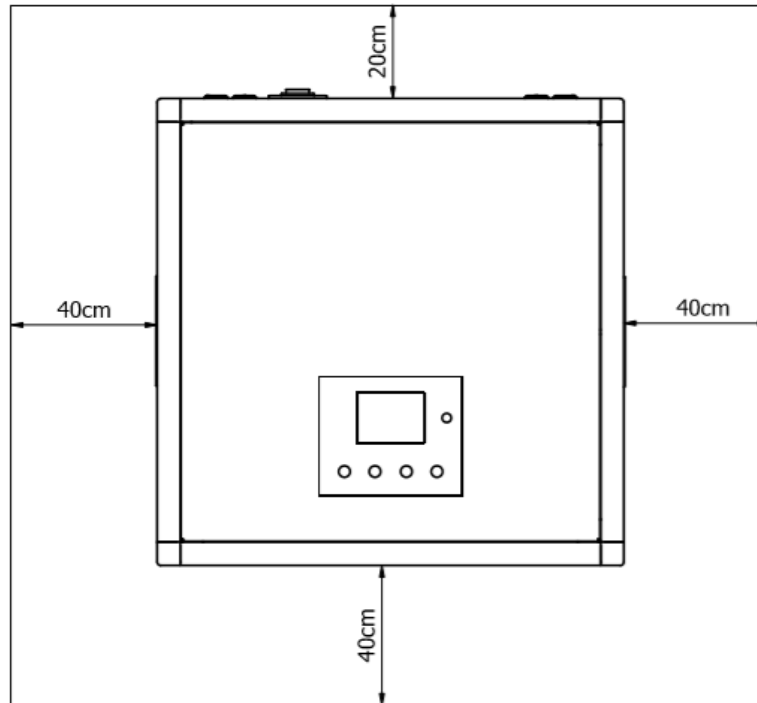

Fig. 2 Minimum allowed distance from walls (top view of the device)
- The device should be placed on stands in the room or in a walkway at the appropriate distance from the walls as shown in [Fig. 2]. The air purifier should not be placed on its side or in any other position.